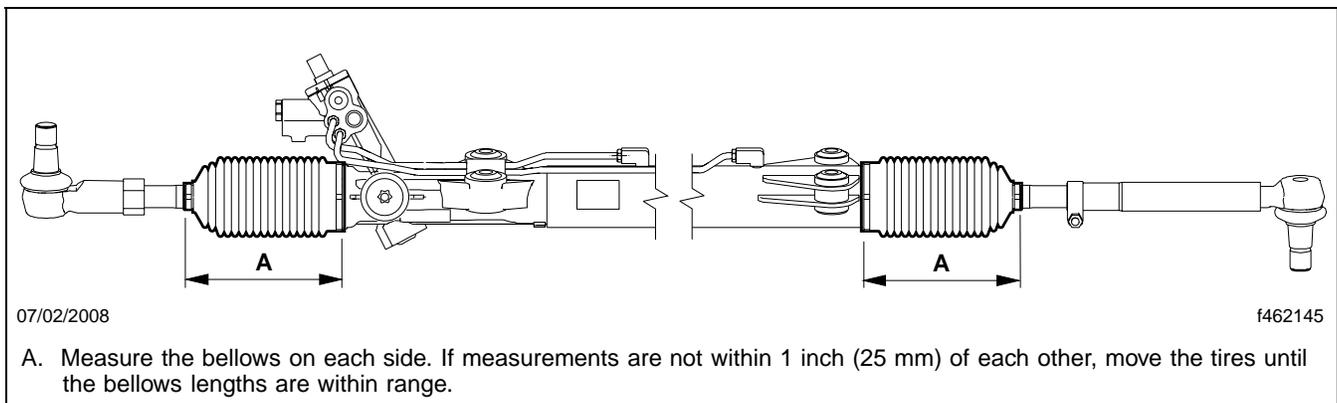

Fig. 10, Measuring the Tie Rod Bellows
- 40.1 Measure the length of the bellows from clamp to clamp on each side of the gear. See **Fig. 10**. If measurements are not within 1 inch (25 mm) of each other, move the tires until the bellows lengths are within range.